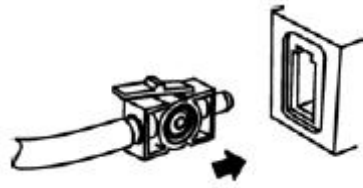
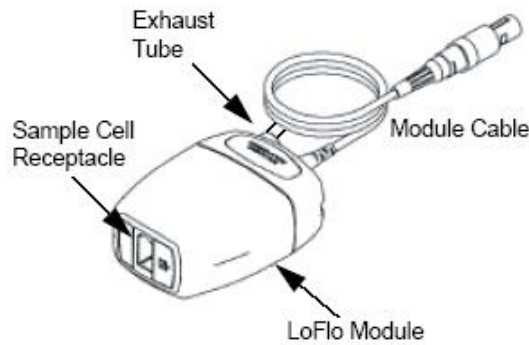

Fig.5-8-1
Fig.5-8-2
1) Insert the LoFlo sample cell into the LoFlo sample cell receptacle. A "click" will be heard when the sample cell is properly inserted. (Fig.5-8-1, Fig.5-8-2)